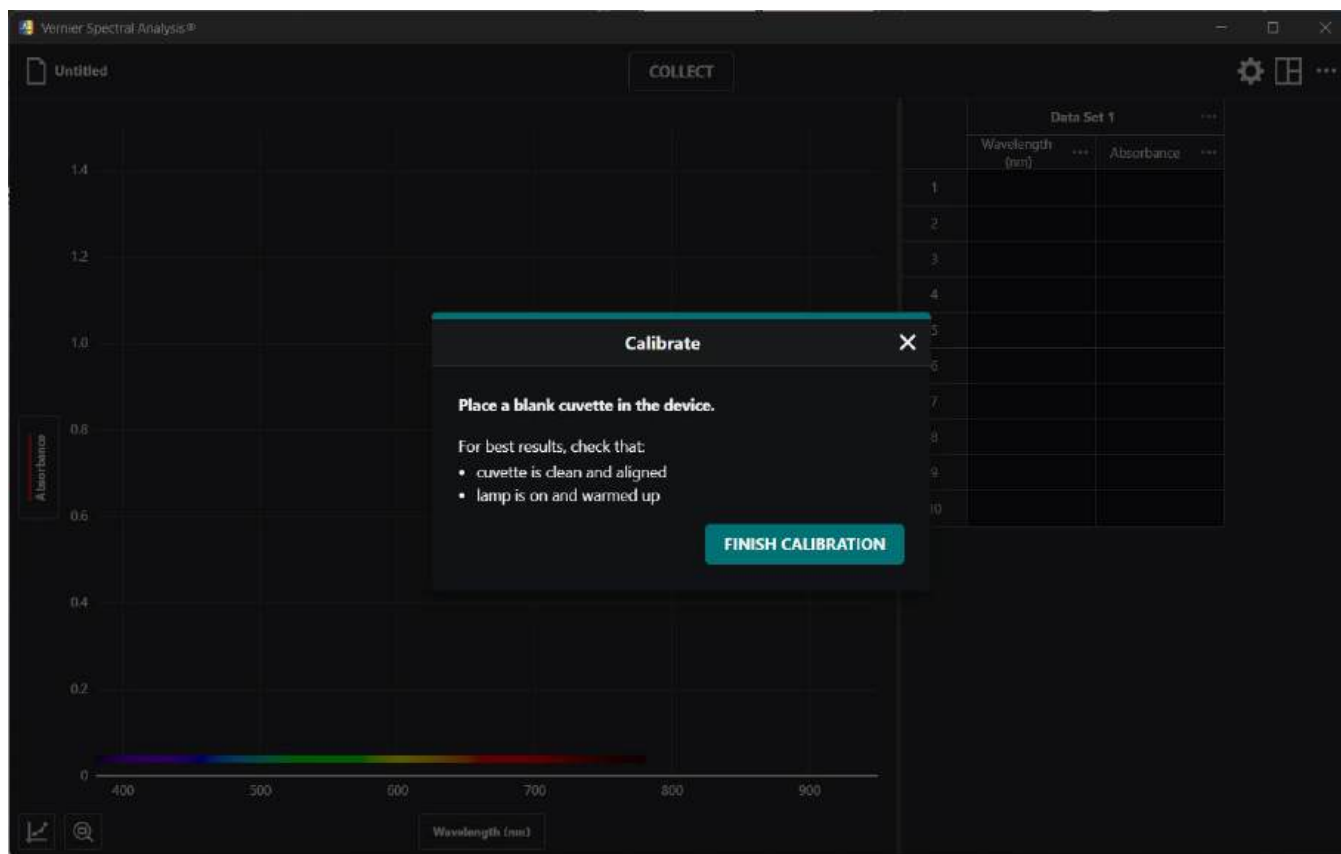

Figure 7: Set up procedures to calibrate the blank cuvette.
4. Select the "Absorbance" experiment from the options, then select the "vs. Wavelength (Full Spectrum)". The lamp will take 60-90 seconds to warm-up. Once the warm-up is complete click the "Finish Calibration" button on the pop-up window. If you have trouble, refer to Figure 7.